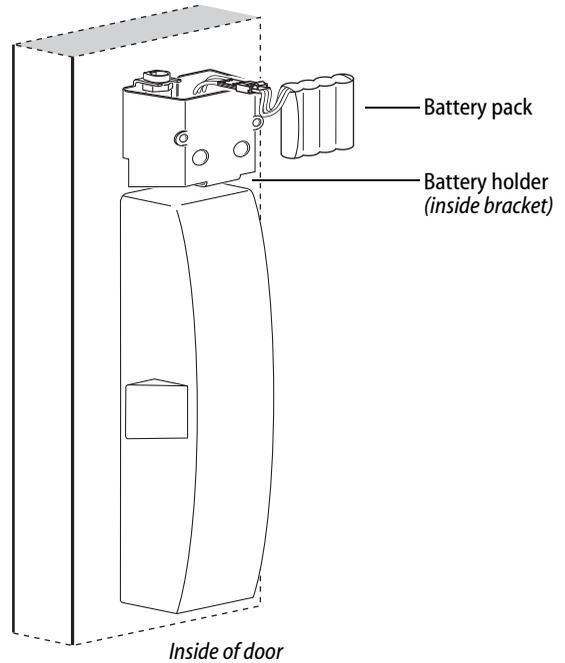

Figure 19 Connecting the battery pack (B.A.S.I.S. & NT500 shown)
- 1 Connect the battery pack to the battery connector on the wire harness as shown in Figure 19.